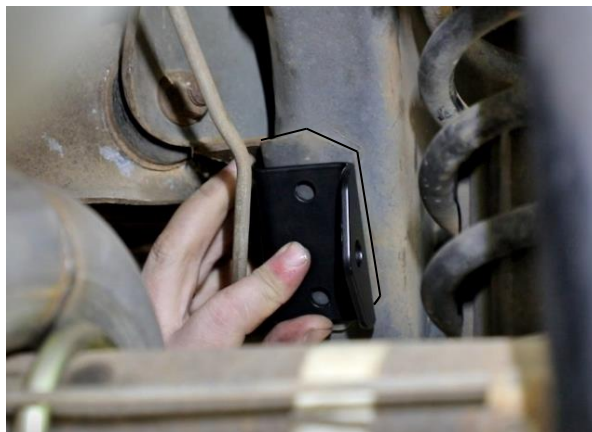

Figure 13 - Passenger Side End Link Bracket
15. To locate the sway bar end link bracket, place it against the frame rail centering it on the factory upper link torque box frame rail reinforcement. The end link bracket flange on the inside frame rail will sit against the upper link torque box (Figure 13). **NOTE:** The driver side and passenger side bracket are the same.